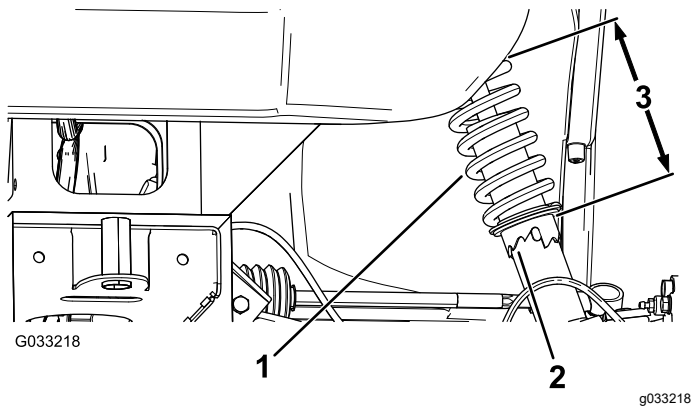

Figure 46
1. Using tool Toro Part No. 132-5069, rotate the collar on the shock absorber to change the length of the spring (Figure 46).